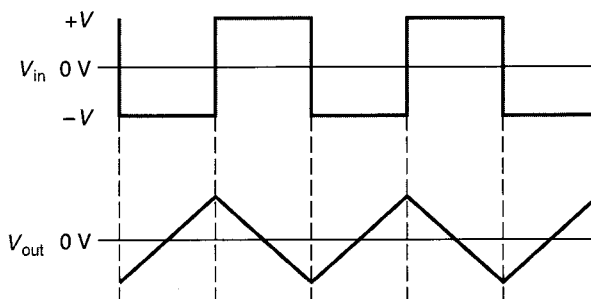
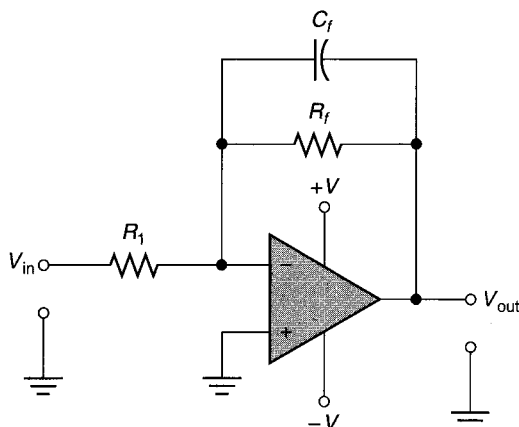

FIGURE 16.15 Op-amp integrator phase relationship.
FIGURE 16.16
Since the input to the integrator is applied to the inverting input, the output of the circuit is  $180^\circ$  out of phase with the input. Thus, when the input goes positive, the output is a negative ramp. When the input is negative, the output is a positive ramp. This relationship, which was briefly mentioned earlier, is illustrated in Figure 16.15.
**Lab Reference:** The phase relationship shown in Figure 16.15 is observed in Exercise 25.
The output waveform in Figure 16.15 is centered around 0 V. In practice, this may not be the case. If the op-amp has not been properly compensated, an output offset voltage may center  $V_{out}$  around some value other than 0 V. One method for ensuring that the output is centered around 0 V is to add a *feedback resistor* ( $R_f$ ) as shown in Figure 16.16.
The feedback resistor (Figure 16.16) eliminates any output offset voltage.